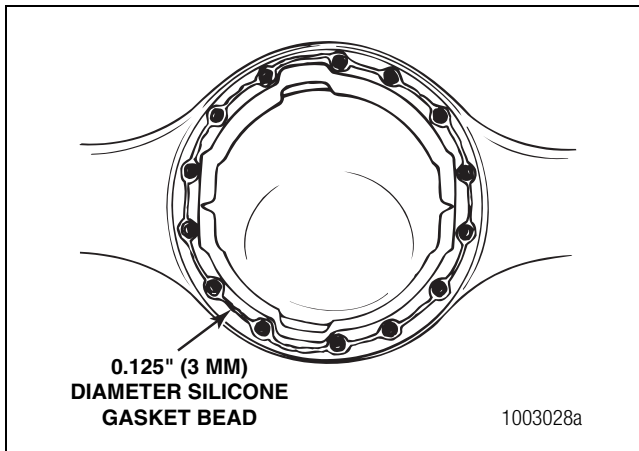

Figure 4.14
- Apply a 1/8-inch (3 mm) diameter continuous bead of the silicone gasket material around one surface. Also apply the gasket material around the edge of all fastener holes on that surface. Figure 4.14.